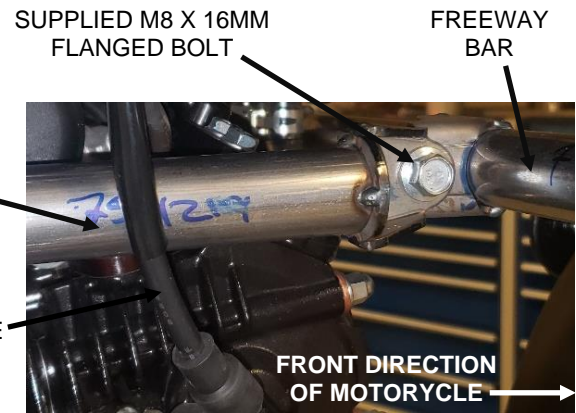

FIGURE 6B
8. Begin installation of the right-side freeway bar strut by carefully routing it behind the motorcycle's ignition wire and aligning the holes of the front strut bracket with the threaded boss on the upper-right freeway bar bracket. Insert (1) provided M8 x 16mm flanged hex bolt through the hole in the front strut bracket and into the threaded boss on the upper-right freeway bar bracket. See **Figure 6B**. Snug the bolt but do not tighten at this time.